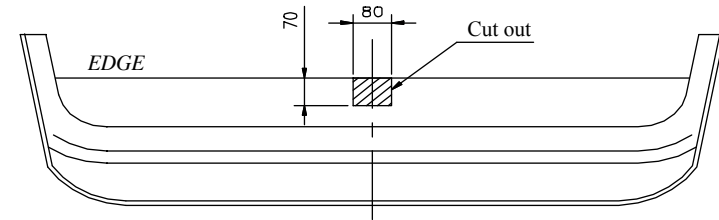

Fig. 2
2. In bottom part of the bumper cut out the hole as show in the fig. 2
4. Put bar of the towbar (pos. 1) into the chassis member and fix with bolts M10x35mm (pos. 6), use big washers  $\varnothing 30 \times \varnothing 10.5 \times 2.5 \text{mm}$  (pos. 9).
5. Put brackets (pos. 4 and 5) to the rear piece and fix it through holes pos. A to the bar of towbar using bolts M8x30mm (pos. 7), use big washers  $\varnothing 24 \times \varnothing 8.4 \times 2 \text{mm}$  (pos. 10).
6. Through holes (pos. B) in brackets (pos. 4 and 5) fix nuts M8 with big washers  $\varnothing 24 \times \varnothing 8.4 \times 2 \text{mm}$ . Take care at the torque moment - **10 Nm**.
7. Through holes (pos. C) in brackets (pos. 4 and 5) make holes with drill  $\varnothing 9 \text{mm}$ , and next fix with bolts M8x30mm (pos. 7).
8. Fix body of the automat and place tow-ball according to supplied instruction. Note! Remember to place socket plate (pos. 3) as shown on the drawing 1.